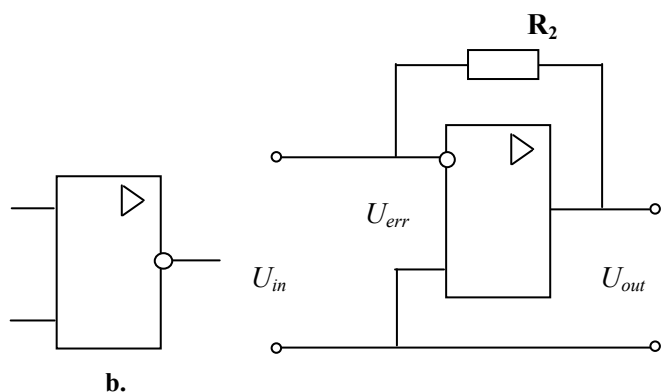

Fig. 2.21
**Feedback current amplifier.** Fig. 2.21 illustrates an amplifier with the inverting voltage feedback. Here, the output voltage drives the feedback resistor  $R_2$ , which is connected to the inverting input, and the voltage gain is independent on the error. Instead of acting like a voltage amplifier, an amplifier with an inverting voltage feedback acts like an ideal *current-to-voltage converter*, a device with a constant ratio of output voltage to the input current. As  $K_d$  is much greater than unit,